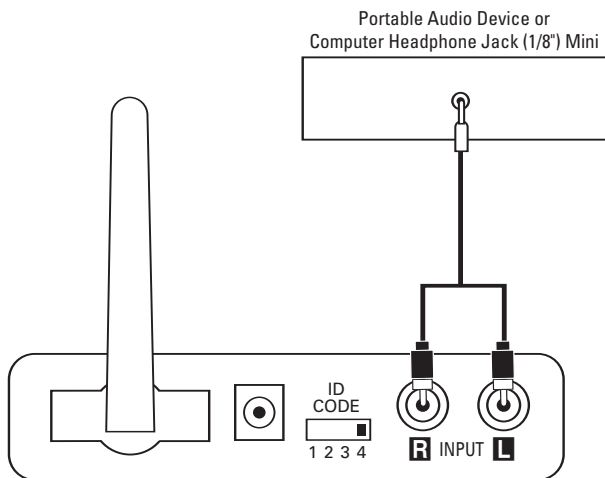

Figure 5.
Connect the RCA – 1/8-inch mini-jack cable (included) to the preamp out, line out or headphone output of your portable audio player and the inputs on the transmitter module ⑭, as shown in Figure 5.